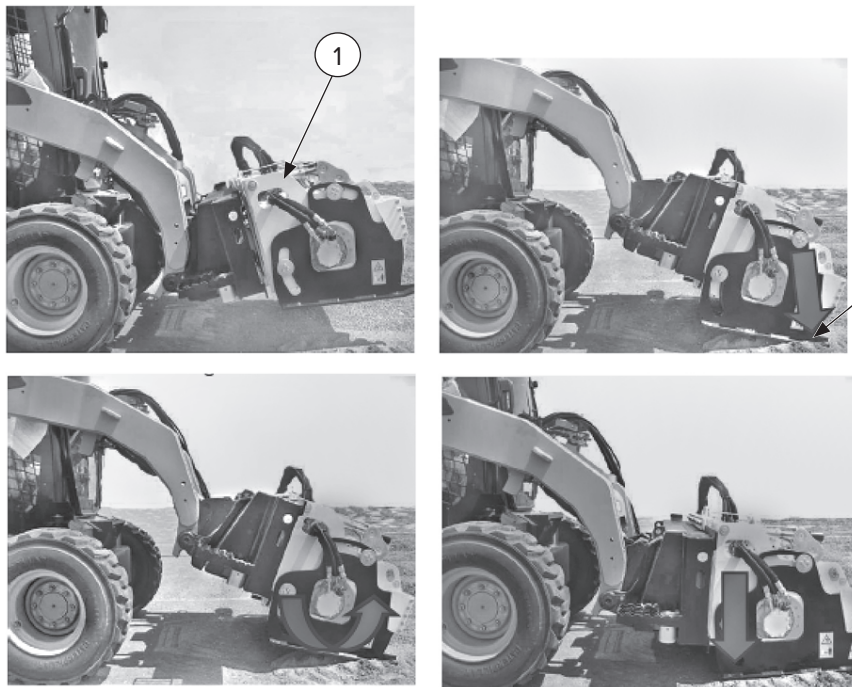

Figure 10
1. Move the equipment to the start of the working site, keeping the unit [Figure 10, Item 1] at the center of the mount so that the entire structure is so balanced.